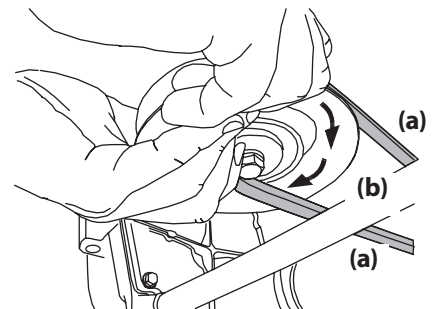

Figure 4-11
- While still holding the PTO belt (a) downward, continue turning the PTO pulley (b) until the PTO belt (a) is rolled off the PTO pulley (b). Refer to Figure 4-11.
11. Pull the right side of the PTO belt rearward and place the narrow V-side of the PTO belt into the PTO pulley. See Figure 4-11.
12. While holding the PTO belt and PTO pulley together, rotate the PTO pulley to the left (See Figure 4-11). Continue holding and rotating the PTO pulley and PTO belt until the PTO belt is fully rolled into the PTO pulley.